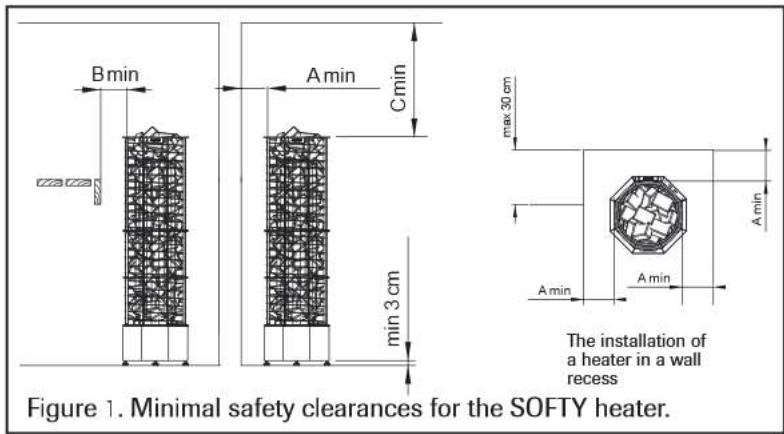

Figure 1. Minimal safety clearances for the SOFTY heater.
**) See figure 1
- The heater can also be installed into a wall recess, see figure 1.